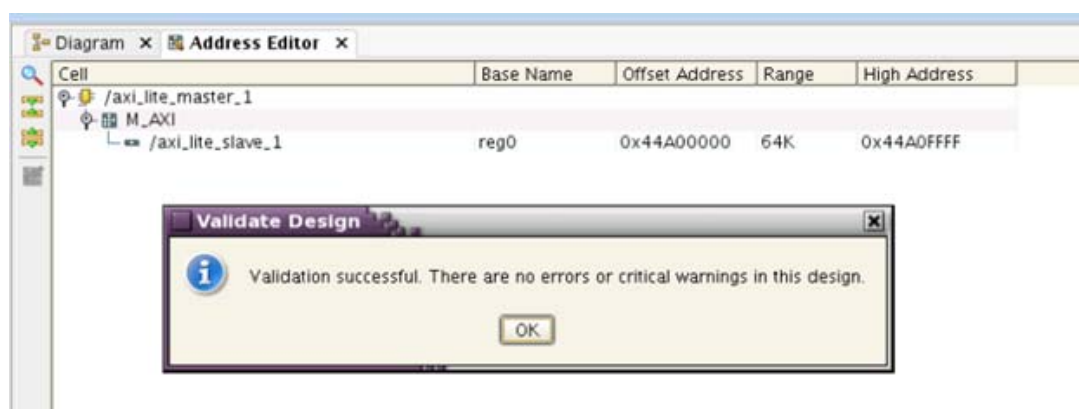

Figure 38: IP Integrator Canvas: Validation Successful Window
15. Select **Tools > Validate Design** (Figure 38) and click **OK**.